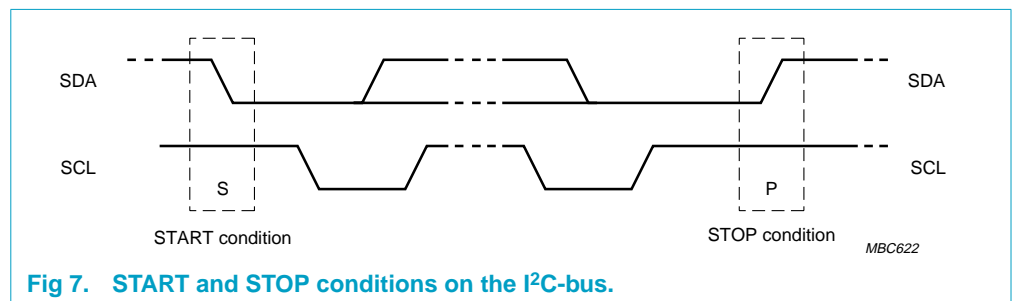

Fig 7. START and STOP conditions on the I2C-bus.
Both data and clock lines remain HIGH when the bus is not busy. A HIGH-to-LOW transition of the data line, while the clock is HIGH is defined as the start condition (S). A LOW-to-HIGH transition of the data line while the clock is HIGH is defined as the stop condition (P); see Figure 7.